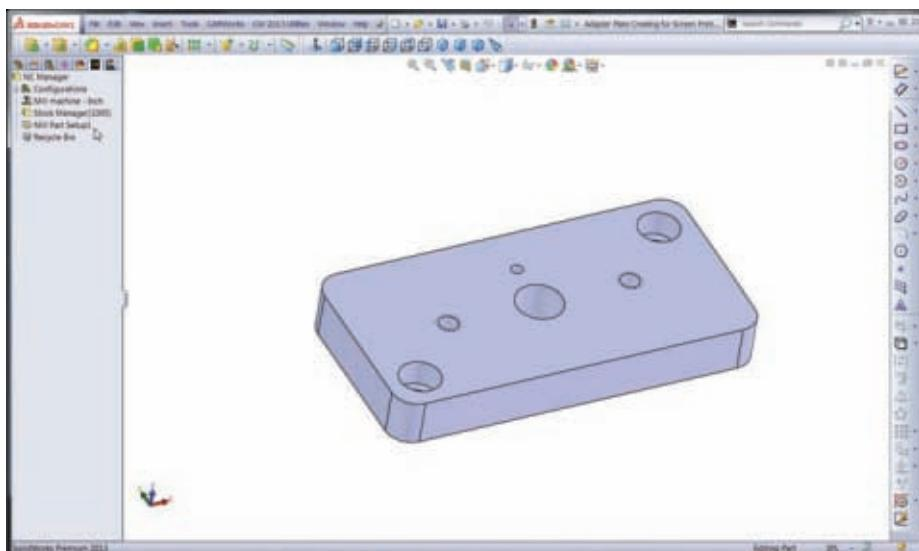

Figure 7-9 Once in the operations side, tools and cutting parameters can be input.
10. Once all the features have been defined for the first setup, jump over to the operations side. (see Fig. 7-9)